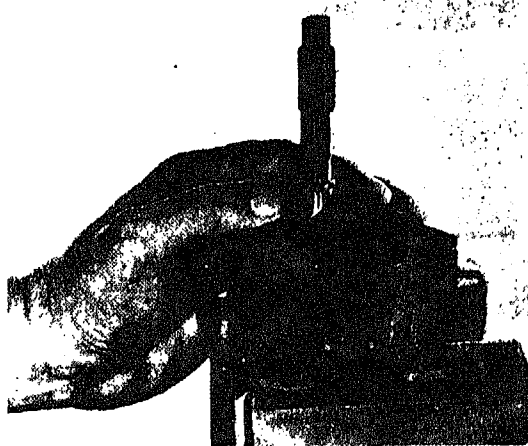

Fig. 504-4 Check gear pocket depth
3. Check gear body and cover for scoring or wear, replace parts as needed. Check gear pocket depth. See Table 504-1, Fig. 504-4.